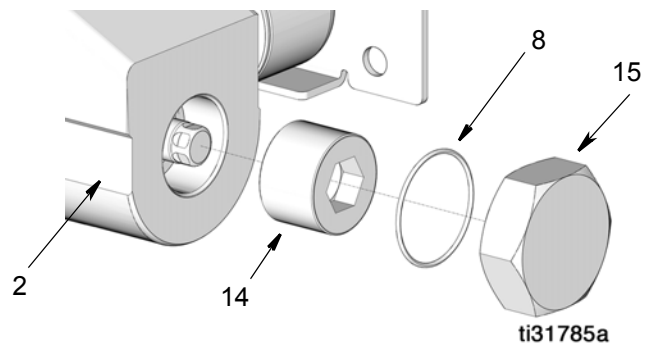

FIG. 16
- NOTE:** It is not necessary to remove the air motor (1) from the pump base (2) to disassemble the pump lower. However, it is easier to access all of seals with the air motor removed.
2. Remove the pump end nut (15) and o-ring (8) from pump base (2) (FIG. 16).